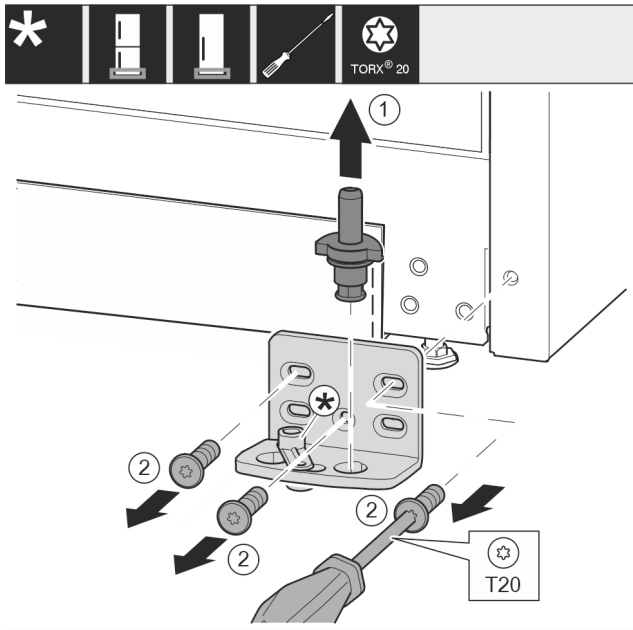

Fig. 44 *
- Pull the bearing bolt Fig. 44 (1) out upwards completely.*
- Use screwdriver to unscrew the screws Fig. 44 (2) and remove the swap bearing block.*